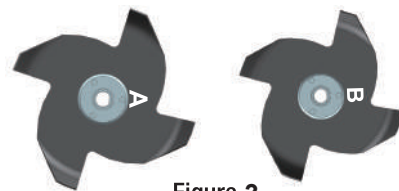

Figure 3
- Make sure to assemble the tines in order (A), (B), (C), (D). Sign is etched on the tines for reference. See Figure 3.